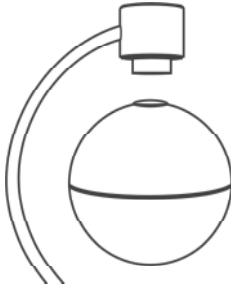

Fig.5
2. You may find it easier to guide the globe into the correct position from below. Supporting your forearms, take the globe sphere in both hands. Hold the globe sphere (North Pole upwards, lettering legible) approx. 2-3 cm vertically below the upper magnetic head (see Fig. 5). Now slowly guide the globe in an upwards direction, millimetre by millimetre towards the magnetic head. At a distance of approx. 10 mm, you will feel the globe sphere jolt gently.